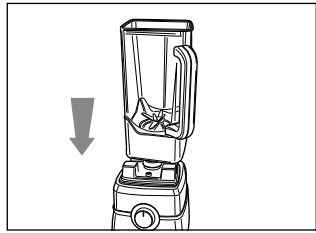
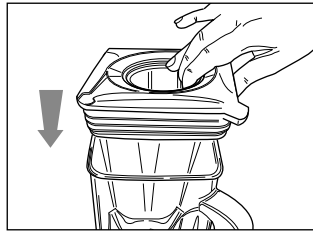

Fig. 2
Fig. 3
- Make sure the appliance is unplugged and the operation dial (F) is on position "0".
- Position the goblet (C) on motor body (E) properly and press it slightly downwards until it locks in place (Fig. 2).
- Cut fruit and vegetable into small pieces and place them into the goblet (C) adding water or milk in an amount not exceeding the MAX 2.0 l level (the minimum filling is 400 ml). The maximum level for liquids is 1200 ml.
- Position the lid (B) on the goblet (C) and press it slightly downwards until it locks in place (Fig. 3).